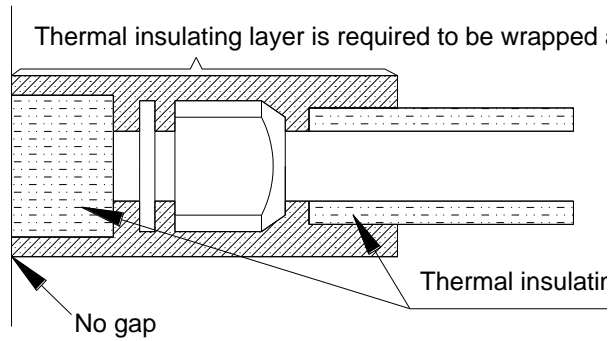

Fig. 18
- 3) Joints of indoor and outdoor unit should be wrapped with insulating material and leave no gap between pipe and wall. See Fig. 18.